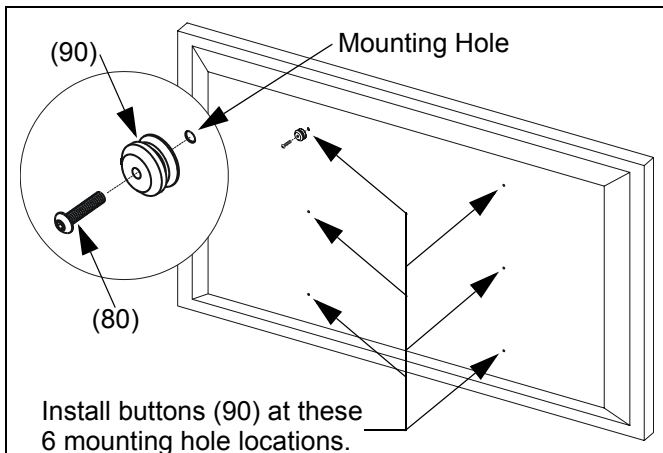

Figure 2: Akira 84" and Orion 84" Mounting Button
1. Using key (140), insert screw (80) through button (90) and install into threaded mounting hole on back of display (See Figure 2). Tighten securely.